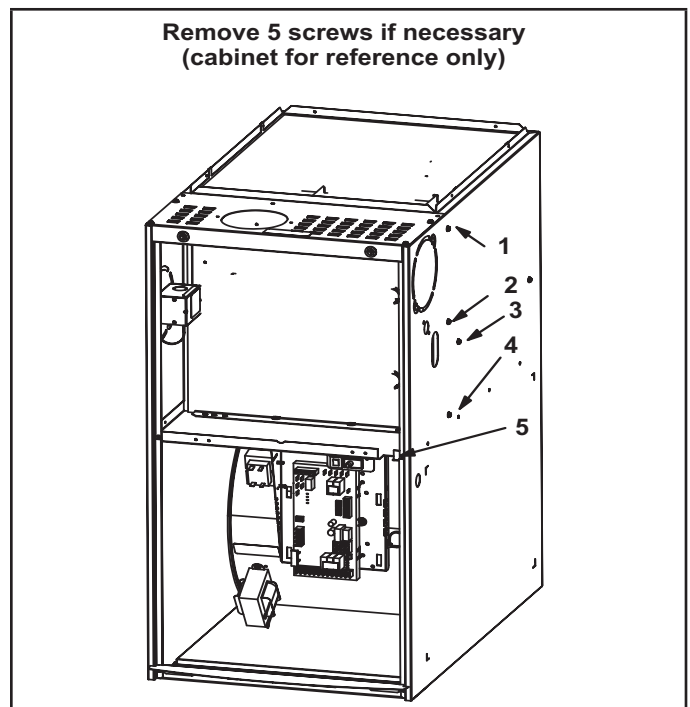

FIGURE 30
- 8 - Remove heat exchanger. It may be necessary to spread cabinet side to allow more room. If so, remove five screws from the left side or right side of cabinet. See FIGURE 30.